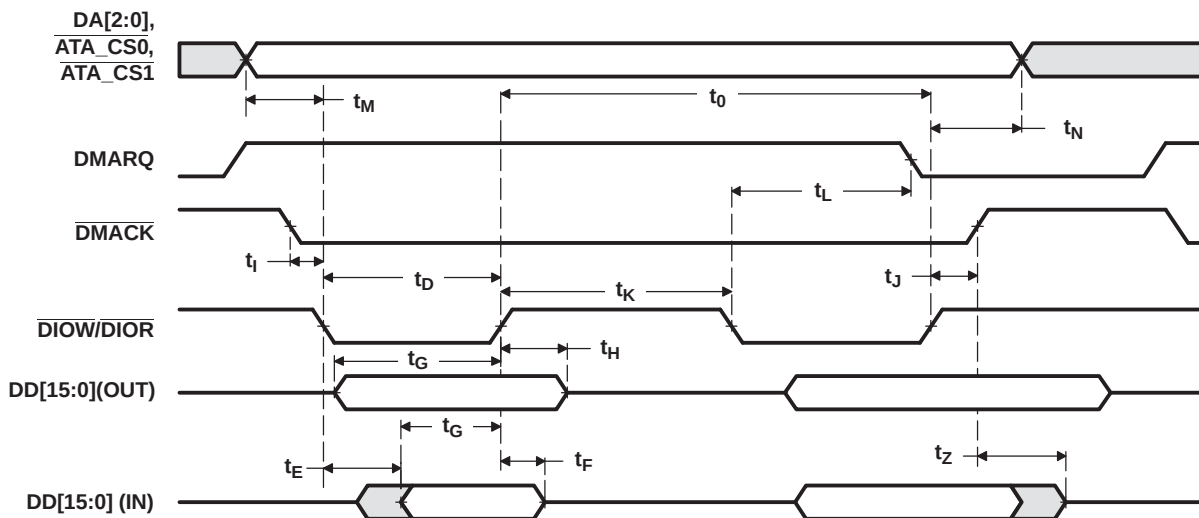

Figure 6-65. ATA Multiword DMA Timing
Table 6-91. Timings for ATA Module — Multiword DMA AC Timing^{(1) (2)} (see Figure 6-65)